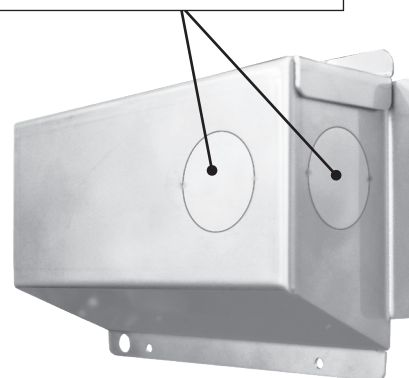

Fig. 28-2 Junction box knockouts
1. Remove the junction box located on the rear of the unit. Select and remove a knockout from the junction box that will best suit your electrical setup. See Fig. 28-2.